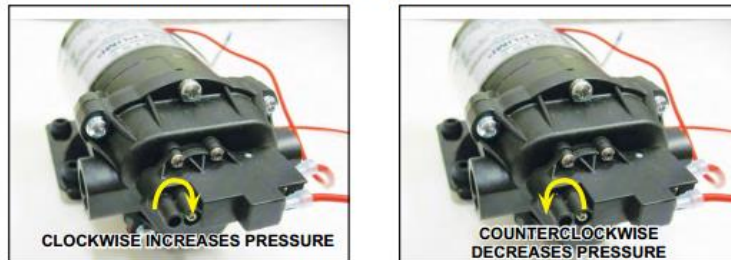

Figure 4-3. Location of Pump's Hex Screw
The pump pressure setting adjustment is performed by turning the hex screw, which is close to the center of the pump head, with a hex L-key, provided in the Flex Installation Kit - (see Figure 4-3).
3. With the pump still on, reconnect the solution hose onto the Flex unit (see Figure 4-3).